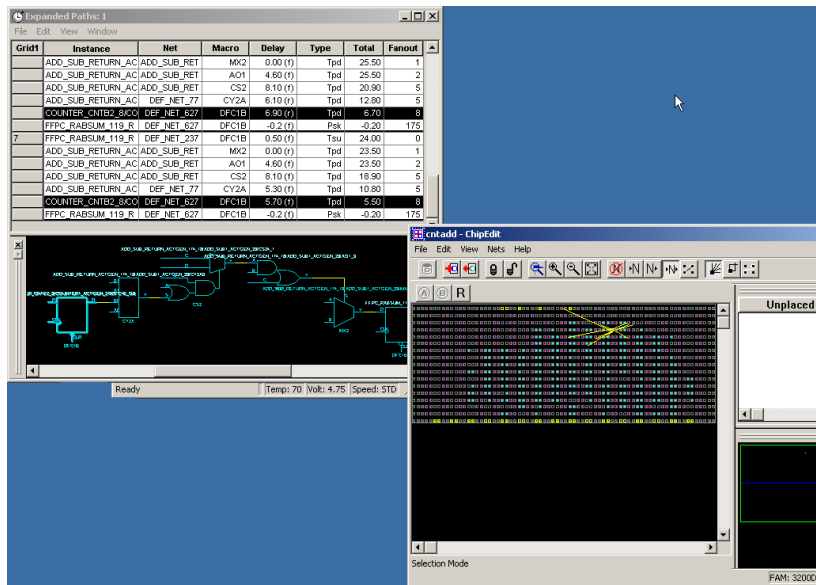

Figure 2-13. Timer and ChipEdit
**6. Select a module or net in the Expanded Paths dialog box.** The module or net is shown in ChipEdit, as shown in Figure 2-13.